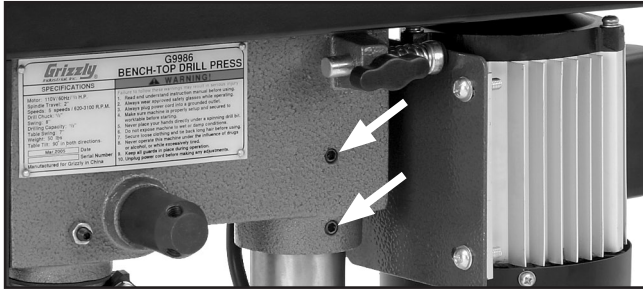

Figure 7. Setscrews for tightening headstock to column.
- Slide the headstock onto the top of the column, center it over the base, and tighten the two setscrews shown in **Figure 7**.